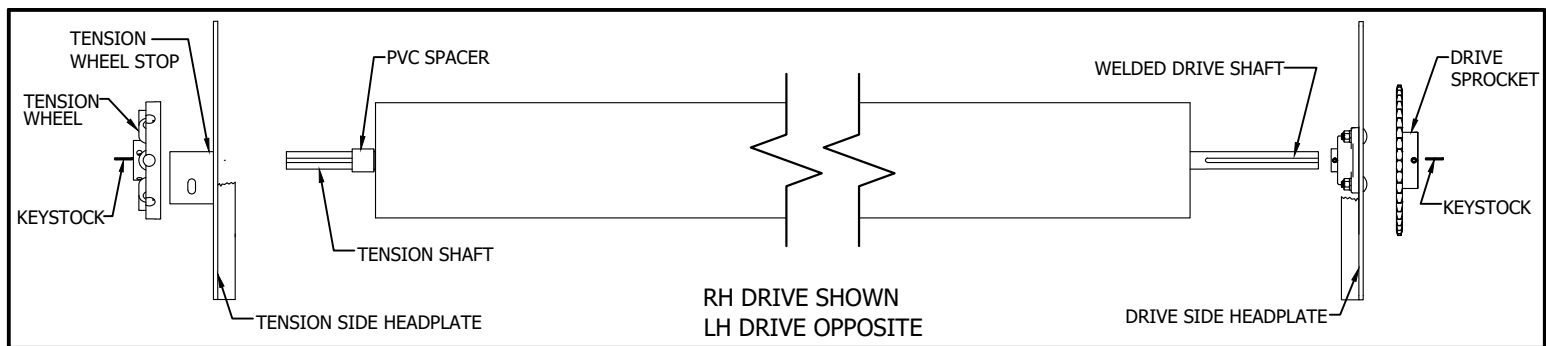

FIGURE 13
- b. Install drive side headplate with mounted bearing as far as possible onto drive shaft. Install sprocket and keystock onto drive shaft and tighten set screws on sprocket at this time as shown in Figure 13.